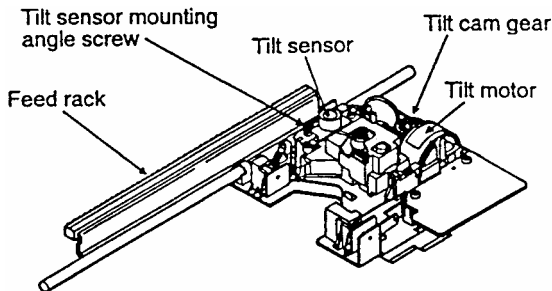

FIGURE 3-12 The tilt sensor unit. (Zenith Corp.)
- The pickup carriage, which features all tilt mechanisms, including a tilt sensor and tilt motor, is driven in the feed direction along the feed rack. A drawing of this pickup carriage unit is shown in Fig. 3-12.